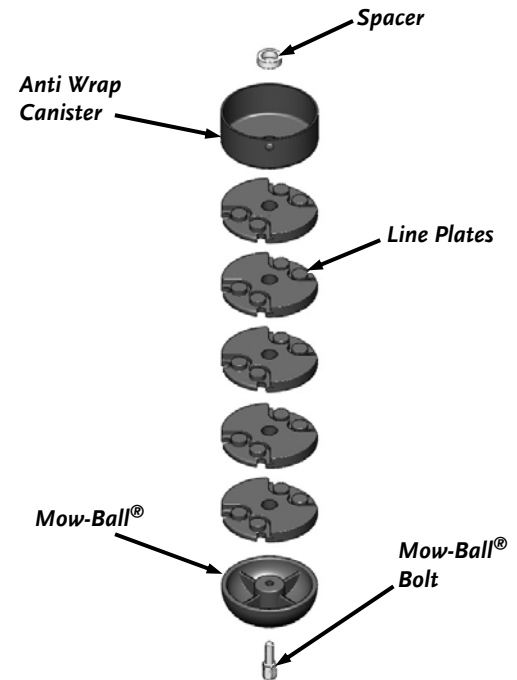

Figure 18
Improper installation can cause damage to the trimmer bearings. Follow these directions carefully to protect your machine from damage. Reassemble the components in the order shown in **figure 18**.
1. Place the Spacer and Anti Wrap Canister (with the lip facing up) onto the Shaft (**Figure 18**).